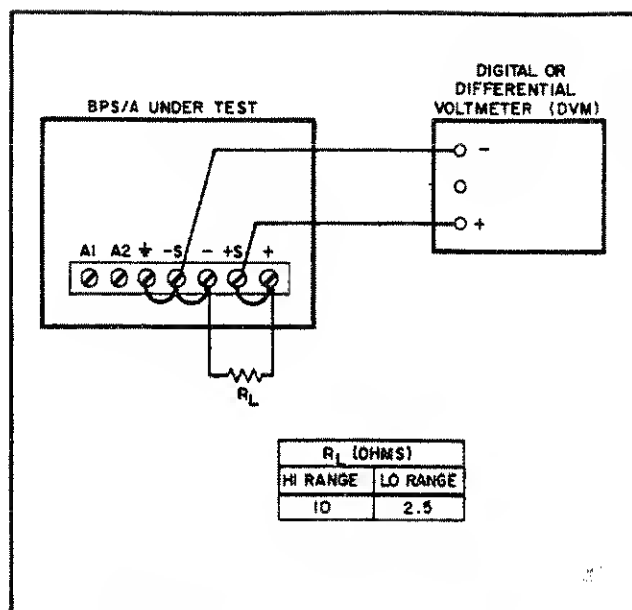

Figure 5-1. Power Supply Mode Test Setup
- Connect high range load resistor (R_L) across output terminals (see Figure 5-1).
- Turn off BPS/A. Change load resistor R_L to low range value (see Figure 5-1) and set RANGE switch to X1.
- a. Connect the test setup shown in Figure 5-1. Use high range (X4) load resistor value.
- a. Connect the test setup shown in Figure 5-1. Use the high range (X4) load resistance value.